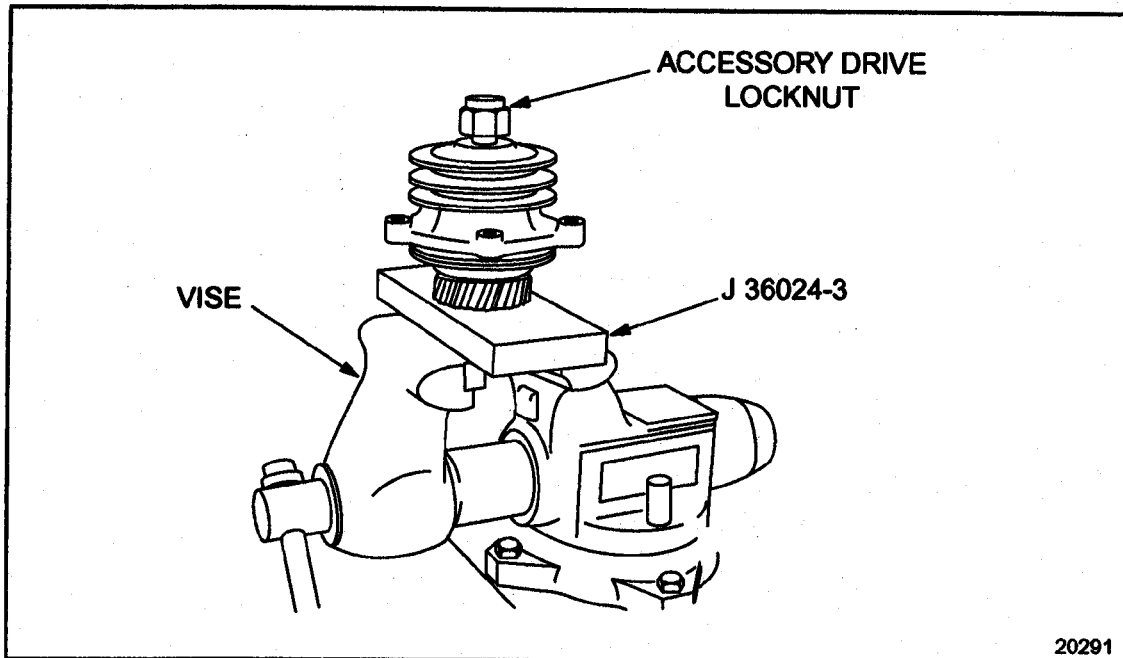

Figure 1-405 Accessory Drive Pulley Locknut Removal
2. Place the accessory drive assembly holding fixture into a vise. See Figure 1-405.
3. Remove the accessory drive pulley locknut. See Figure 1-405.